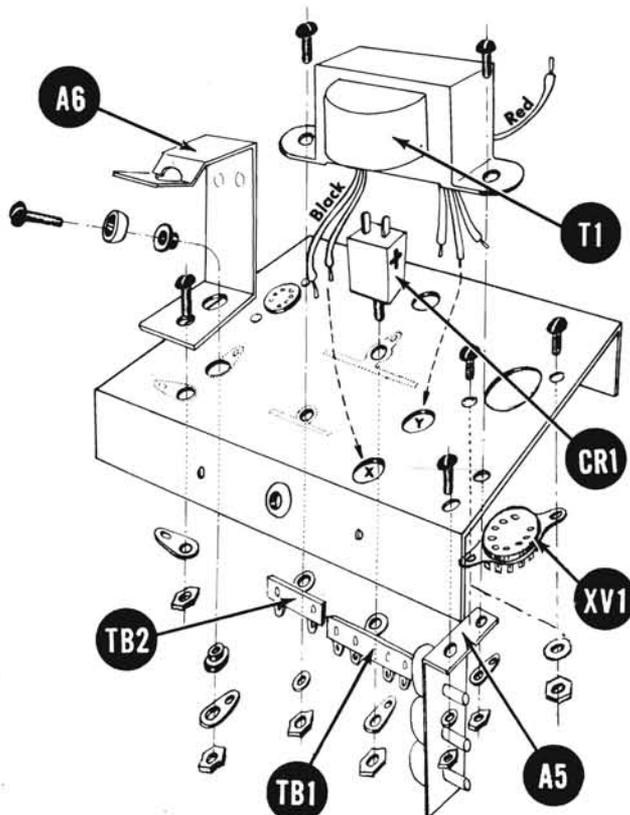

Fig. 2
- (-) Fig. 2. Mount the 9 pin miniature socket, XV1, with 2 each #4-40 screws, #4 hex nuts and #4 washers. See Fig. 3 for keyway location.
- (-) Fig. 2. Mount the 7 pin miniature socket, XV2, with 2 each #4-40 screws, #4 hex nuts, and #4 washers. A one post left terminal strip, TB3, is mounted with XV2. See Fig. 3 for location.
- (-) Fig. 2. Insert 3/8" rubber grommet for line cord in hole in center of rear chassis apron.
- (-) Fig. 2. Mount the selenium rectifier CR1 with a 6/32 hex nut. Position the 4 post terminal strip TB1 and the ground lug under the nut as shown.
- (-) Fig. 2. Mount the battery clip A6 with a 6-32 X 1/4 screw and a 6-32 hex nut. Position gnd. lug under nut as shown. Line up the two empty holes before you tighten nut.
- (-) Fig. 2. Mount the cup washer to the battery clip. Use a 6-32 X 1/2 screw, two #6 shoulder fiber washers and a 6-32 hex nut. Position a #6 ground lug under nut as shown.
- (-) Fig. 2. Mount the pre-assembled potentiometer bracket A5 to the chassis. Use a 6-32 X 1/4 screw, a #6 lockwasher and a 6-32 hex nut. Line up two empty holes before you tighten nut.
- (-) Fig. 2. Mount the power transformer T1 to the chassis. Pass black leads thru hole "X" and the leads on the other side of the transformer thru hole "Y" except one red. Use two 6-32 X 1/4 screws, one #6 lockwasher and two 6-32 hex nuts. Place two post terminal strip TB2 as shown and under other hex nut position a #6 ground lug.